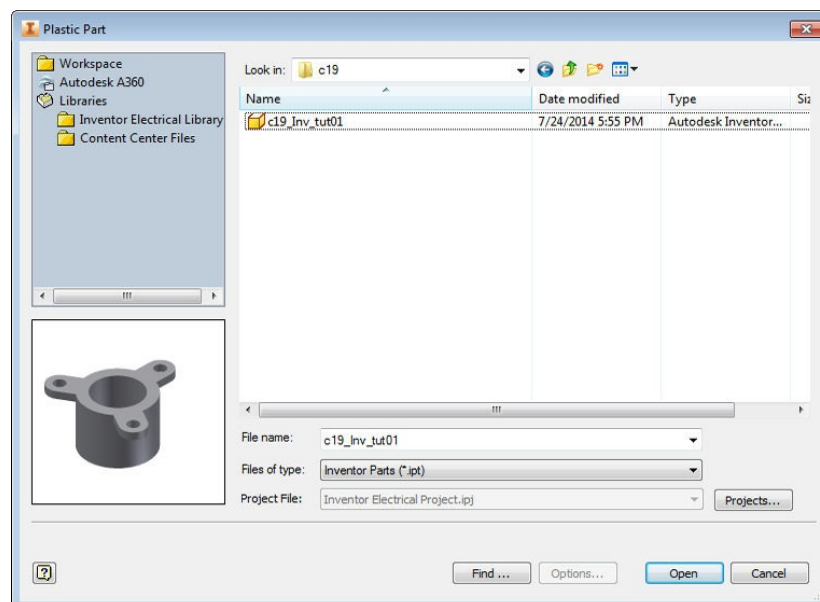

Figure 19-63 The *Plastic Part* dialog box
1. Choose the **Plastic Part** tool from the **Plastic Part** drop-down in the **Mold Layout** panel of the **Mold Layout** tab in the **Ribbon**; the **Plastic Part** dialog box is displayed, as shown in Figure 19-63.